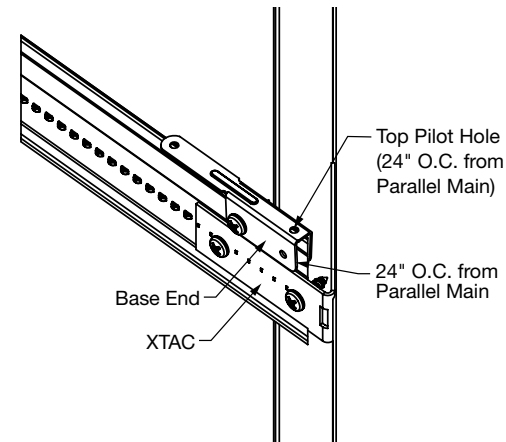

Fig 38
- Place a PAC over the bulb of the existing cross tee with the base side closest to the trim. Place so that the pilot hole on the top of the base end is located at the correct 24" O.C. spacing for full-size panels. This PAC will provide a location that will act as the connection point for the intersecting grid member (**Fig 38**).